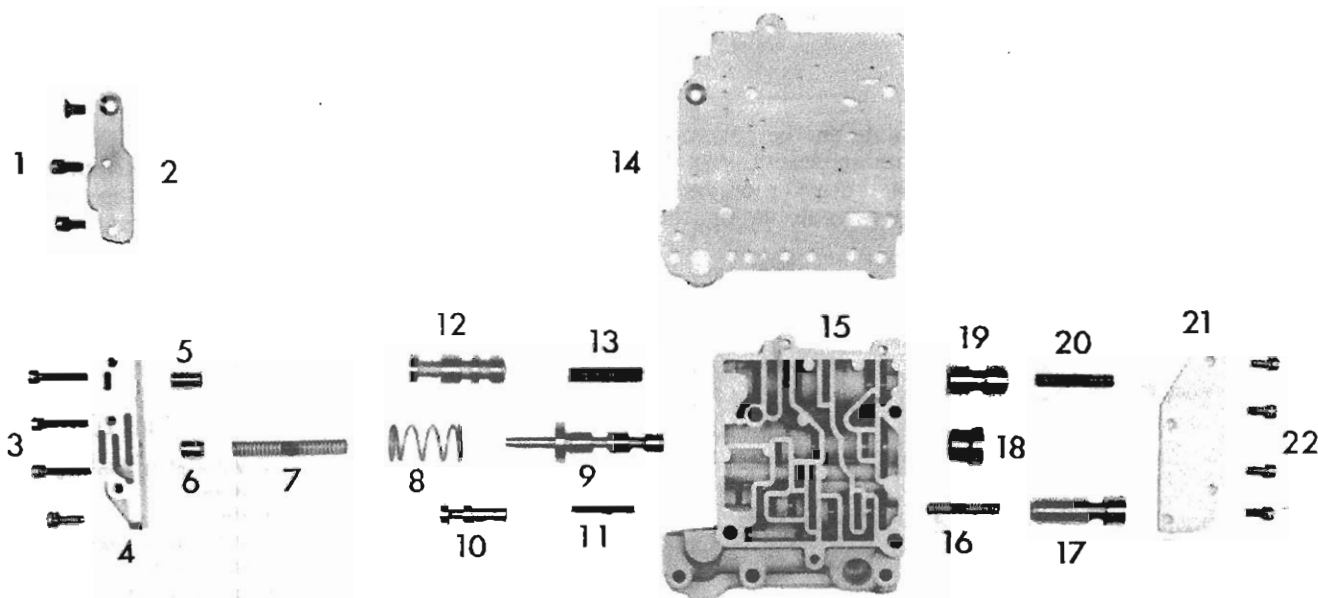

FIG. 19
Remove the four screws (22, Fig. 19) from the valve body side plate and remove the side plate (21). Remove the 2-1 shift valve spring (20), and valve (19). Remove the 2-3 shift valve governor plug (18). Remove the inhibitor valve (17) and spring (16). Remove the four valve body end body retaining screws (3) and remove the end body (4). Remove the orifice control valve (12) and spring (13), inner and outer 2-3 shift valve springs (7 and 8) and 2-3 shift valve (9), transition valve (10) and spring (11). Remove the end body cover retaining screws (1) and remove the cover (2). Remove the inhibitor valve plug (5) and the 2-3 shift valve plug (6) from the end body.